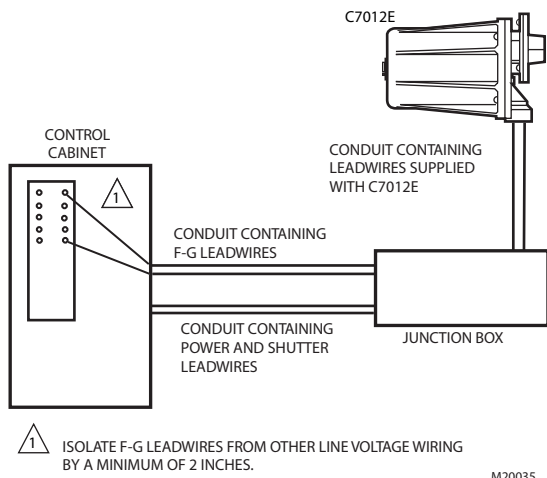

Fig. 9. Splicing leadwires in a junction box.
3. Detector leadwires can be spliced for longer leadwire runs, observing the following considerations (see Fig. 9):